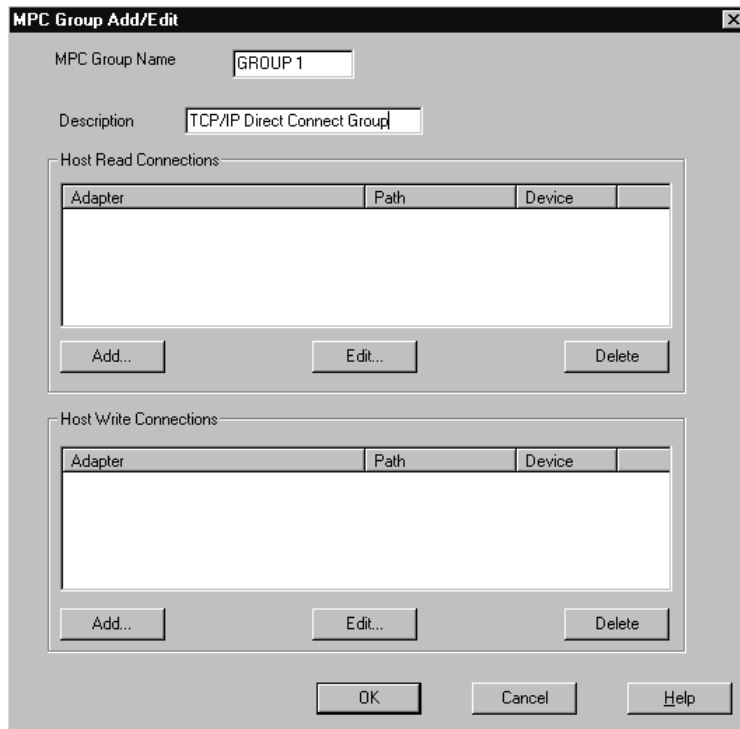

Figure 5-8. MPC Group Add/Edit Screen
2. The MPC Group Add/Edit screen (Figure 5-8) is used to define a new MPC transmission group. Enter a Group Name and an informational description.